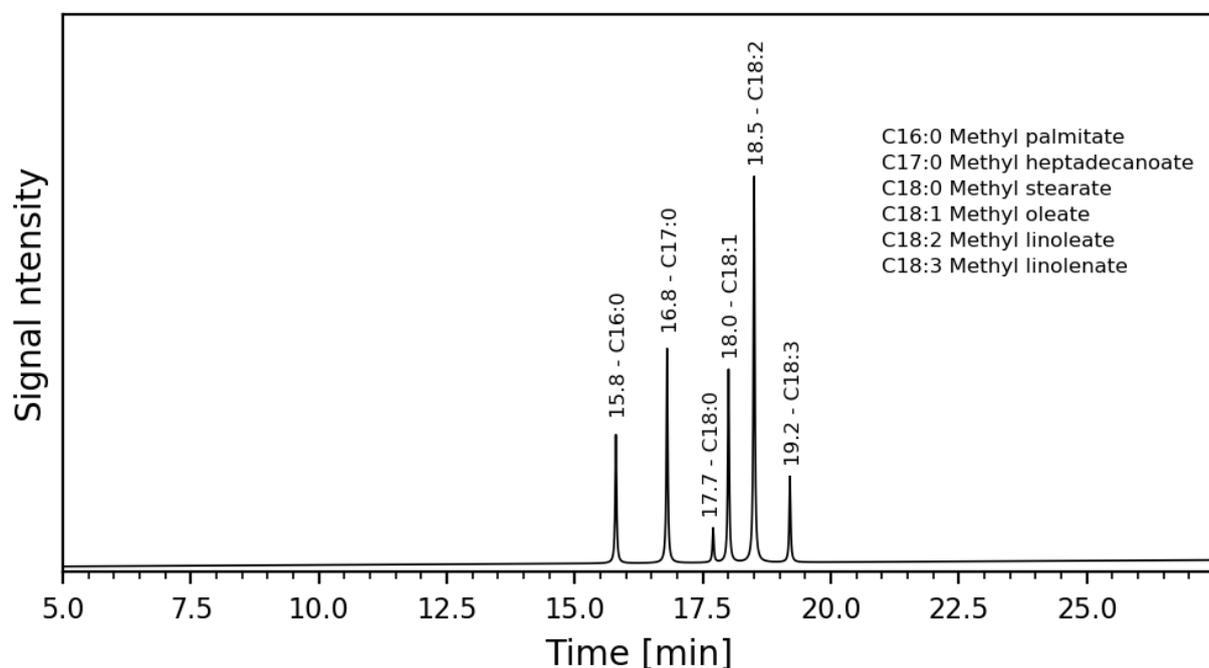

Figure 5. Simulated GC chromatogram of the FAME in this experiment.
In order to quantify, the sample is mixed with an IST, in this case IST methyl heptadecanoate (C17:0). Since the exact amount of the IST added to the sample is known, the detected area of the IST can be related to the detected fatty acid methyl esters (FAME) mixture corresponding to the biodiesel products (BIOD). As the number of carbons in the compounds will affect the signal, a response factor (RF) is typically used to relate compounds with different carbon content. Here we can assume the RF to be equal to one, as the FAME and IST has similar carbon content. An example of a chromatogram for this experiment is shown in Figure 5.